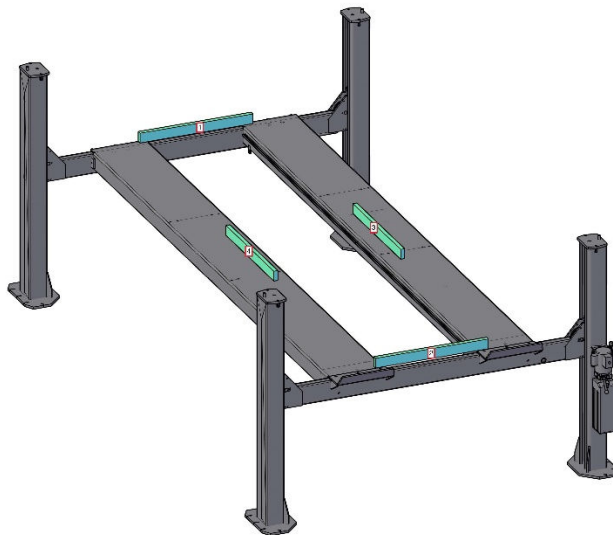

Figure 27. Deck leveling (Lift may not be as shown)
2. Using a self-leveling laser (or 4' level), check the level of the decks front to rear and side to side as shown in **Figure 27**.
4. Adjust the cable lengths by tightening or loosening the two (2) 7/8"-14UNF hex nuts attached to each cable at the tower top plate to raise or lower each corner.
4. When flush with the safety shoe, tighten the two (2) 5/8"-11 UNC hex nuts at the top of each safety ladder and the 3/8"-16 UNC × 1" LG hex bolts at the bottom and top of each safety ladder (on the back side of the tower).
5. Lower the lift onto the mechanical locks and verify level as shown in **Figure 27**. Make adjustments to safety ladder as necessary.